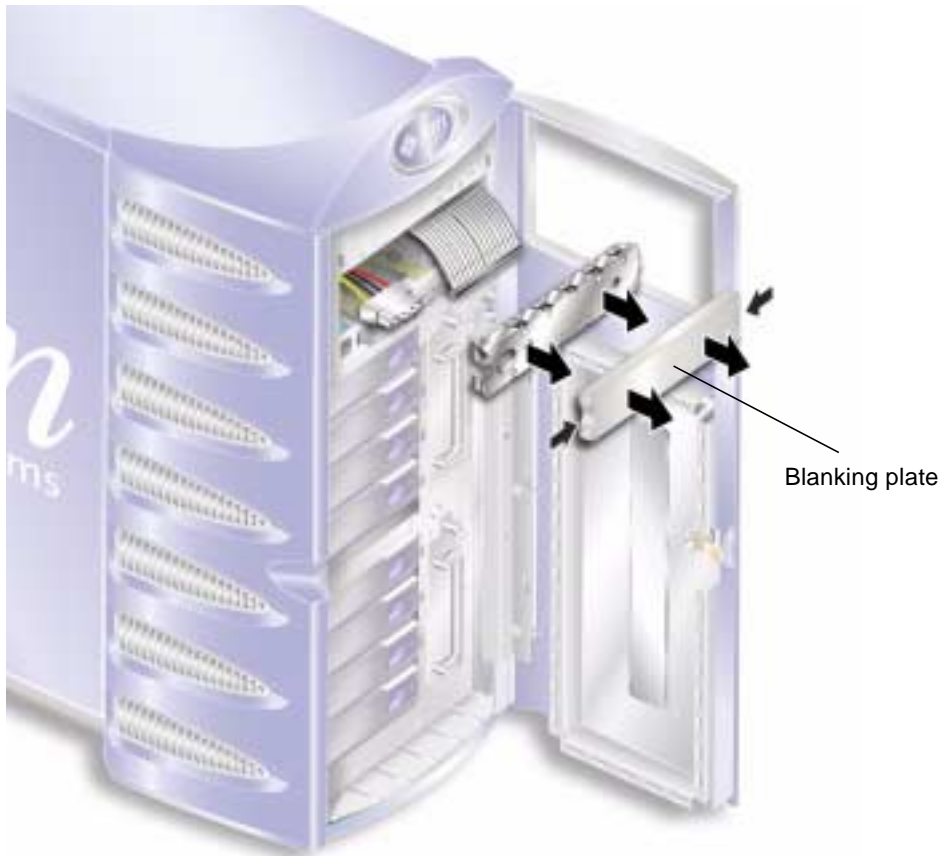

FIGURE 1-27 Tape Drive Blanking Plate Removal
4. Remove the blanking plate. See FIGURE 1-27.